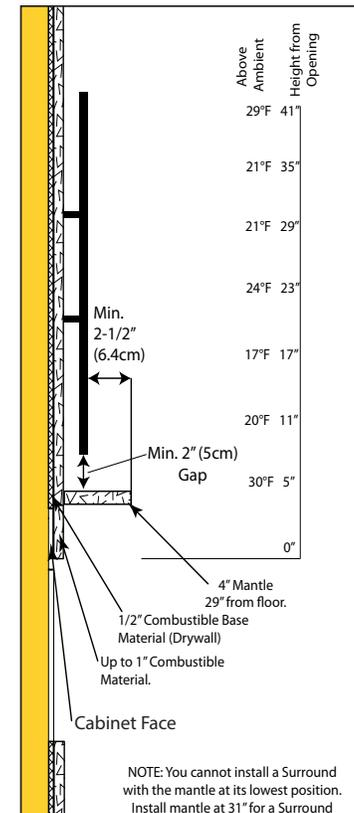

Figure 8: CSS TV - Mantle
**During testing temperatures did not exceed 121°F (49°C) midway up the front wall (see figures on right).** There is no guarantee that these temperatures will not harm the longevity of your TV. Make sure to consult your TV manufacturer's specifications to find the maximum allowable operating temperature. Since every home and installation is unique, temperatures should be verified at the time of install if possible. If desired, front wall temperatures can be lowered to 104°F (40°C) with the use of a mantle (see figure 8). Refer to the Mantle Clearances section on the first page of this guide. A TV should not be installed if temperatures exceed the manufacturers maximum allowable temperature.